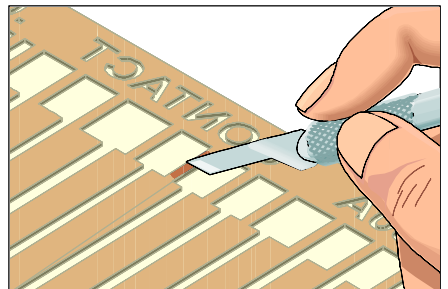

Figure 3: Scrape off the adhesive bonding film from the solder joint area on the back of new contact.
9. Before trimming out the new edge contact carefully scrape off the adhesive film from the solder joint connection area on the back of the new edge contact. (See Figure 3).